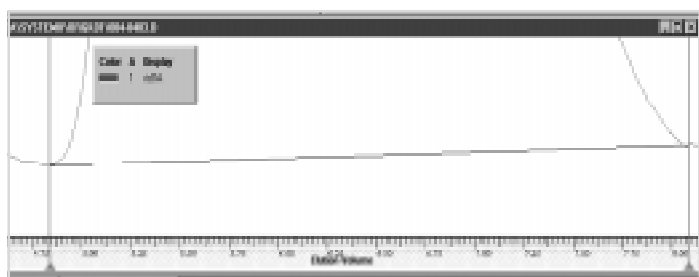

Fig. 10:
Baseline setting as shown in figure 10 has the drawback of less flexibility for setting the integration limits in the Elugram (E) window (refer to below) but is often a more practical approach.
In the Elugram window the baseline corrected raw data are presented. In the Elugram window the integration limits for calculation of the molecular weight distribution and the molecular weight averages have to be set with the red markers. Position them exactly before the start and exactly at the end of the peak. You will have to zoom in for better seeing this. This step is typically not needed if you set the baseline as shown in figure 10.
- The start and end integration marks of the polymer peak are placed where the peak starts and ends (zoom in several times for better seeing this, refer also to chapter VIII and figure 10)